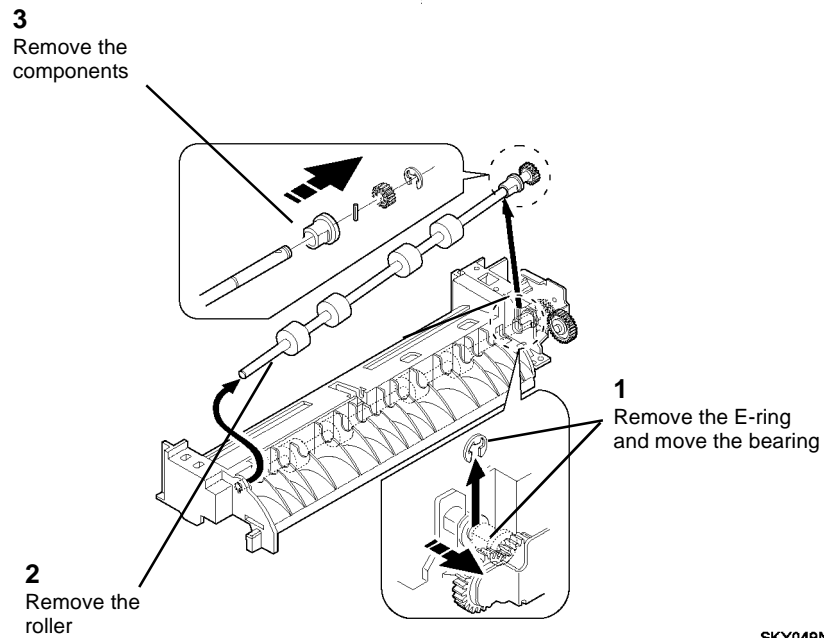

Figure 3 Removing the Transport Roller
4. (Figure 3): Turn over the Bypass Frame and remove the Transport Roller.